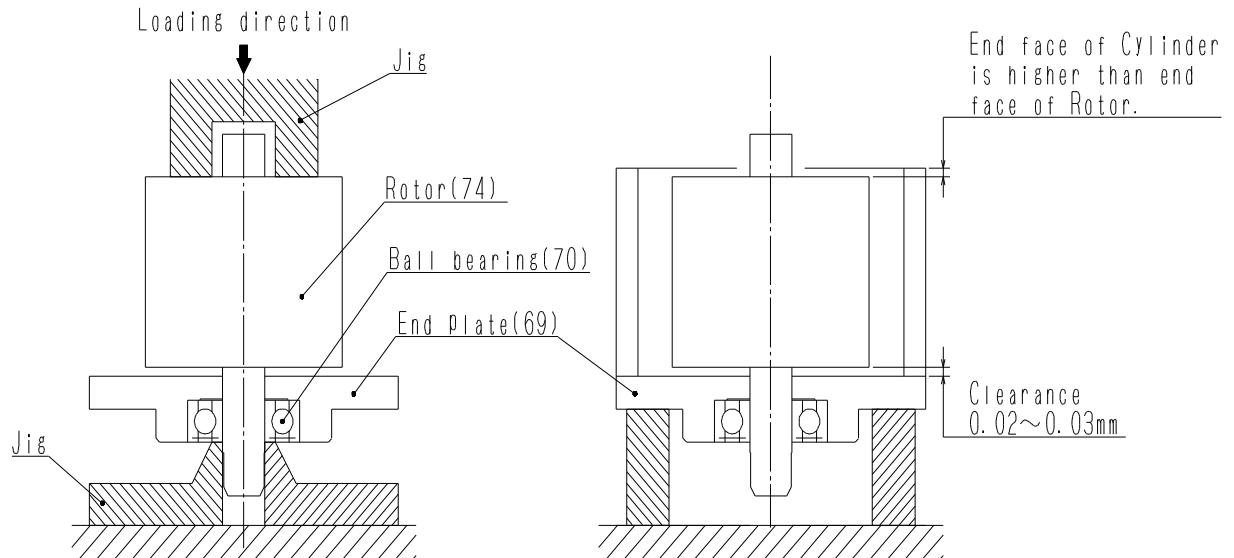

Fig.15
- (2) Using the inner ring of Ball bearing(70) in End plate(69) for support, press Rotor(71) into Ball bearing using a jig and hand press.
Adjust the clearance between End plate(69) and Rotor(71) to 0.02~0.03 mm with End plate facing downwards while subjected to the mass of Rotor. (See Fig. 15)
- (3) Degrease the internal thread of Rotor(71), Washer(77) and Countersunk head cap screw(78) using solvent.
- (4) Install Cylinder(72), making certain the end face of Rotor(71) does not protrude from the end face of Cylinder(75) (See Fig. 15).
- (5) Install Vane(76) into each vane slot on Rotor(71), and slightly lubricating the vane portion. Next, apply oil thinly on the end face of Rotor(71) and the outer face of the $\phi 12$ shaft [End plate(75) side]. (Use the same oil used in the lubricator.)
- (6) Install Spring pin(76) into End plate(75) so both ends of Spring pin protrude the same amount from each face of End plate.
- (7) Install End plate(75). Apply adhesive to the internal thread of Rotor(71) and tighten Washer (77) with Countersunk head cap screw(78). Use Loctite 222 or equivalents as adhesive.
- 15) Install Coned disc spring(68) and Air motor into Motor housing(62).
- 16) Insert Pipe(81) into Motor housing(62), and install O-ring(40) on Pipe(79).